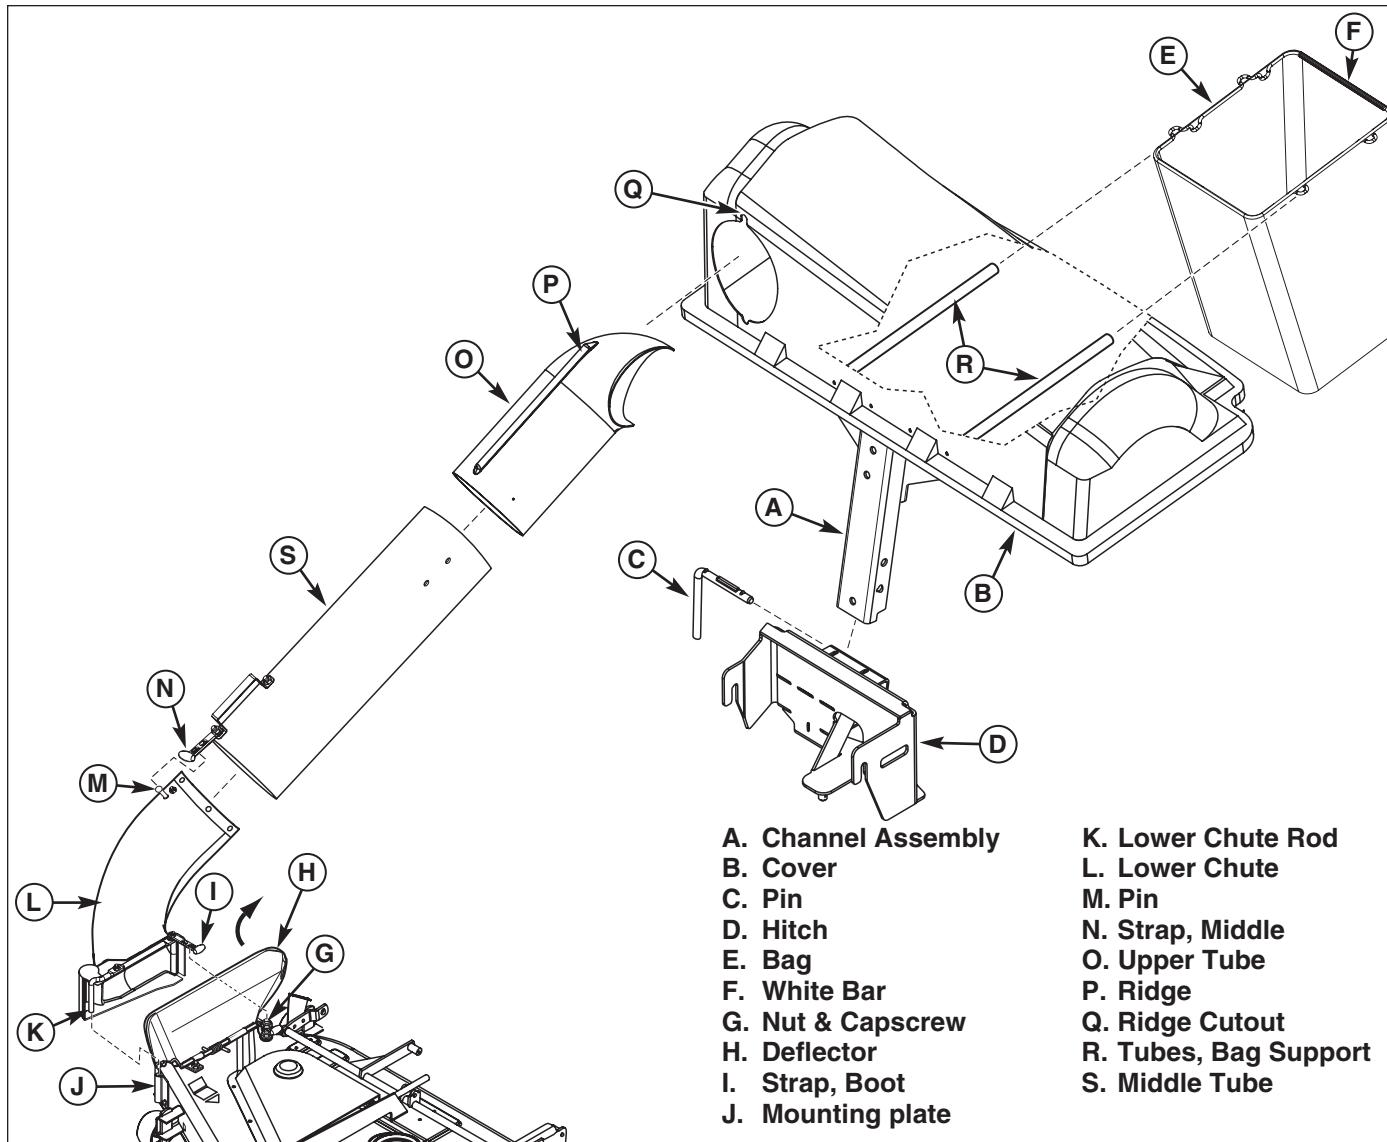

Figure 17. Normal Installation & Removal
1. Mount the the channel assembly (A, Figure 17) into hitch (D). Secure with by inserting pin (C) into the right side of hitch (D) and turning pin (C) counter-clockwise to lock in place.
2. Pivot cover (B) up. Install bags (E) with white bar (F) towards the rear.
3. Lift discharge deflector (H) up. Insert lower chute rod (K) into mounting plate (J). Pull strap (I) and secure